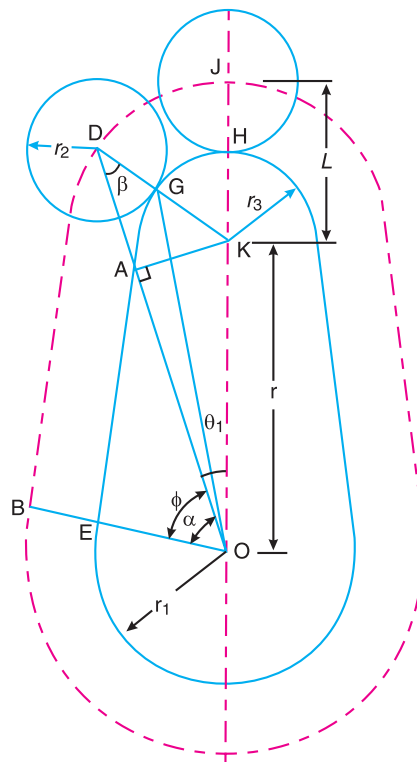

Fig. 20.41. Tangent cam with reciprocating roller follower having contact with the nose.
2. When the roller has contact with the nose. A roller having contact with the circular nose at G is shown in Fig 20.41. The centre of roller lies at D on the pitch curve. The displacement is usually measured from the top position of the roller, *i.e.* when the roller has contact at the apex of the nose (point H) and the centre of roller lies at J on the pitch curve.